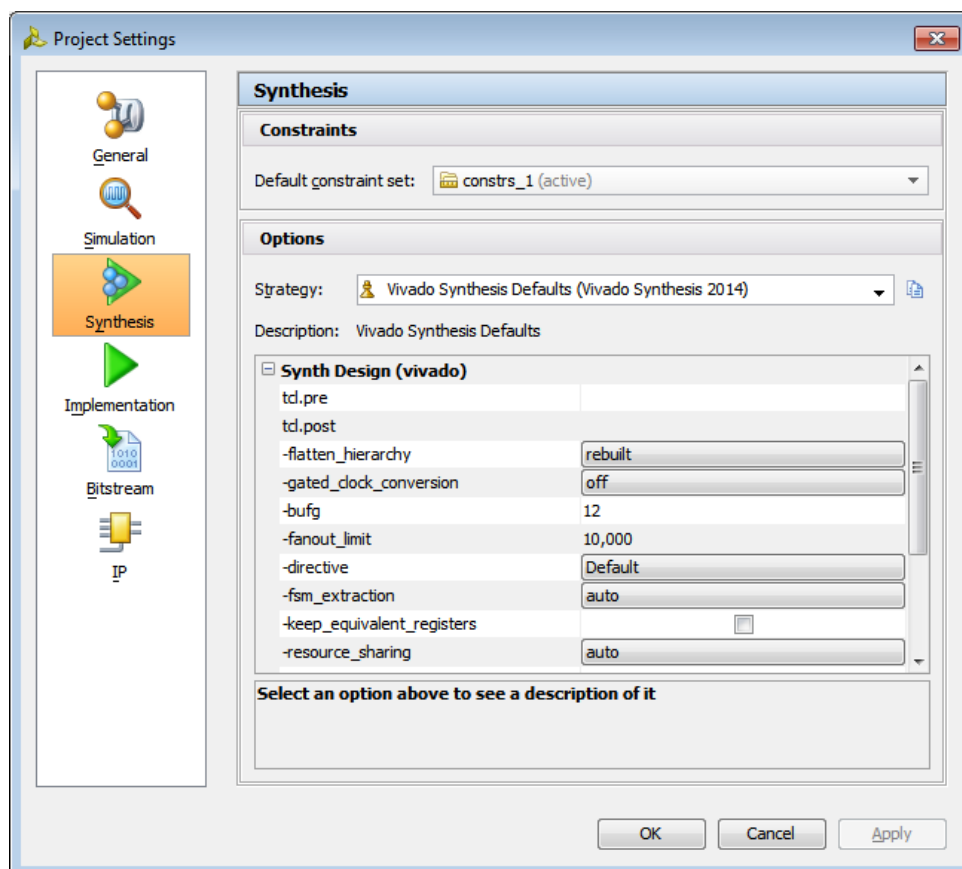

Figure 21: Synthesis Settings
- After reviewing the various synthesis options, select the **Implementation** button on the left side of the Project Settings dialog box, as shown in Figure 21.